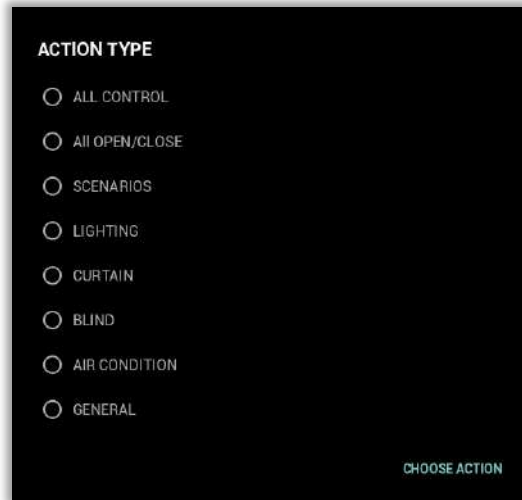

Fig. 36 : Create Scenario – Add Scenario Process Step 2
- 3 This touch button is used to show Alarm Action History. (Fig. 36)